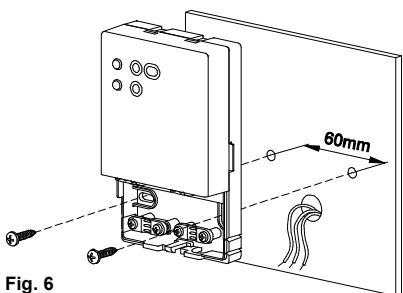

Fig. 6
- 5 Fix the plate onto the wall using the two screw housings with a 60 mm centre-to-centre distance (use the screws and/or dowels supplied) - Fig. 6.